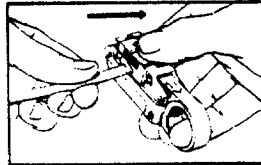

Figure 8
G. Move slide back one position. Then pull cable out carefully while squeezing tool (Fig. 8). If there is too much resistance or strip is imperfect, go to step "H".